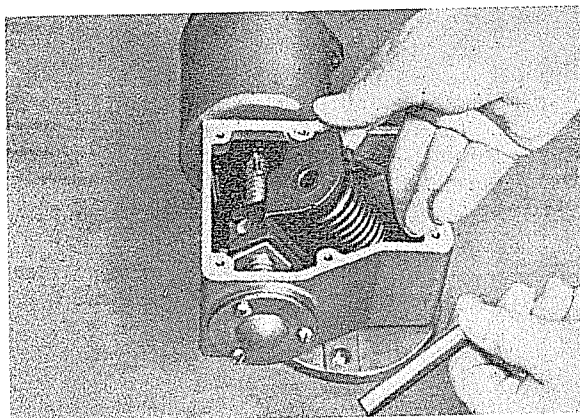

Fig. 57
- (7) Remove lever assemblies and spring by pulling out pin (Figure 57). In re-assembling, care must be taken that the contact bumper on nut is **towards** the switch.